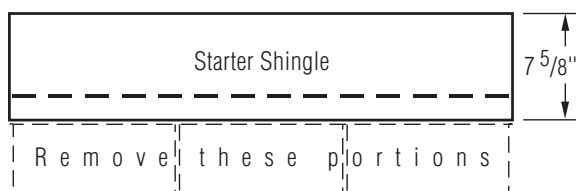

Figure 13-6: Make starter shingles that are 7⁵/₈" in height.
1. Use CertainTeed Swiftstart® Starter, or three-tab self-sealing shingles with the lower tab portions removed. Be sure that the starter shingles are **at least 7⁵/₈" in height**. (Figure 13-6).